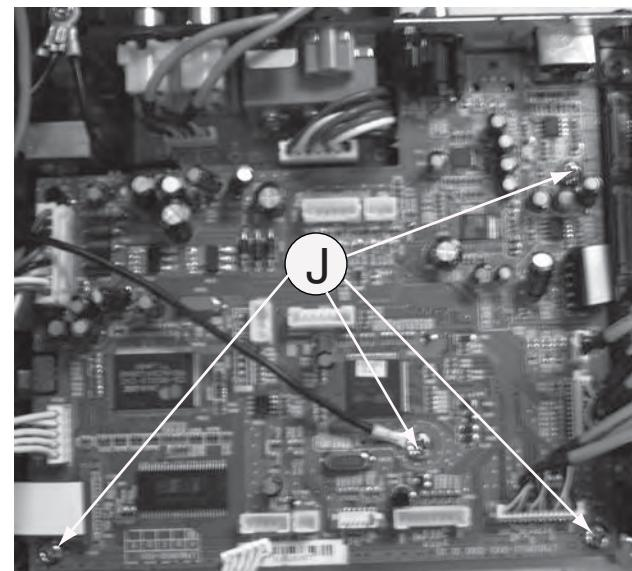
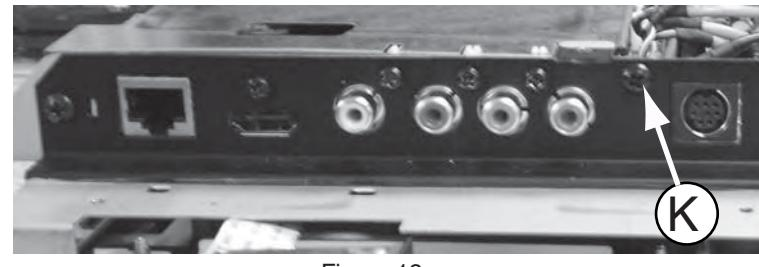

Figure 11
Figure 12
- 1) Loosen 4 screws "J" on the top of MAIN PCB and 1 screws "K" on the MAIN PCB bracket to remove the MAIN PCB as shown in figure 11& figure 12.